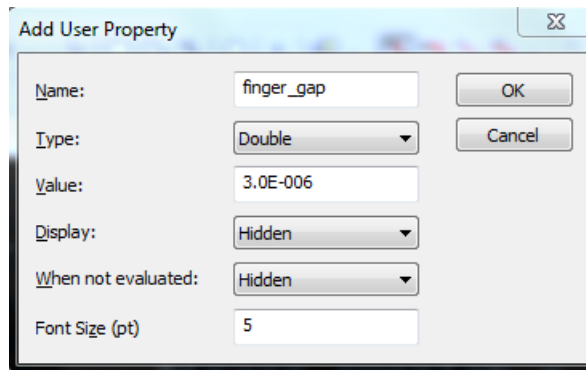

Figure 93: Creating properties
- ☑ Now we will start to add properties to the symbol. Click on the Properties tool  and then click under the comb drive symbol. A property sheet will show up. Enter the values as shown in Figure 93.